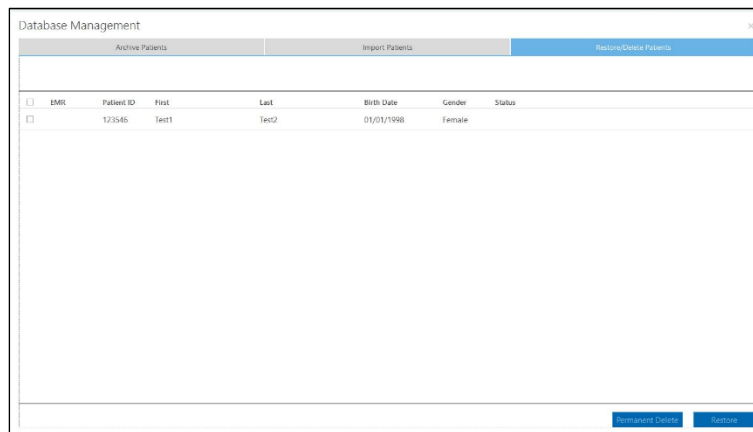

Figure 42: Database Management – Deleted Patients
- Select the **Deleted Patients** tab in the **Database Management** window (Figure 42).